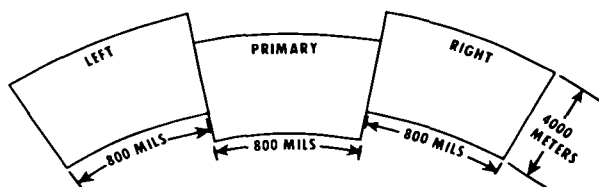

Figure 10-3. Left, primary, and right sectors.
a. Since a battery's area of responsibility may be larger than the area within transfer limits, a battery should compute terrain gun position corrections for each of three sectors--left, primary, and right (fig 10-3). Ranges to the centers of the left and right sectors may be different from those to the center of the primary sector; for example, the sectors may be configured to conform to the maneuver unit control measures.